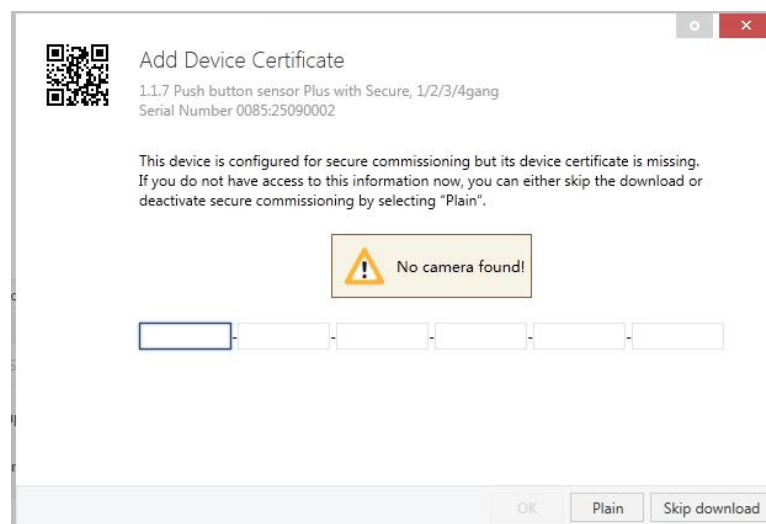

Fig.4.3.1 Add Device Certificate window
- ✧ On the first download of the device, a window pops up in the ETS to prompt the user to enter the key, as shown in Figure 4.3.1 below. The certificate can also be read from the device using a QR scanner (recommended).